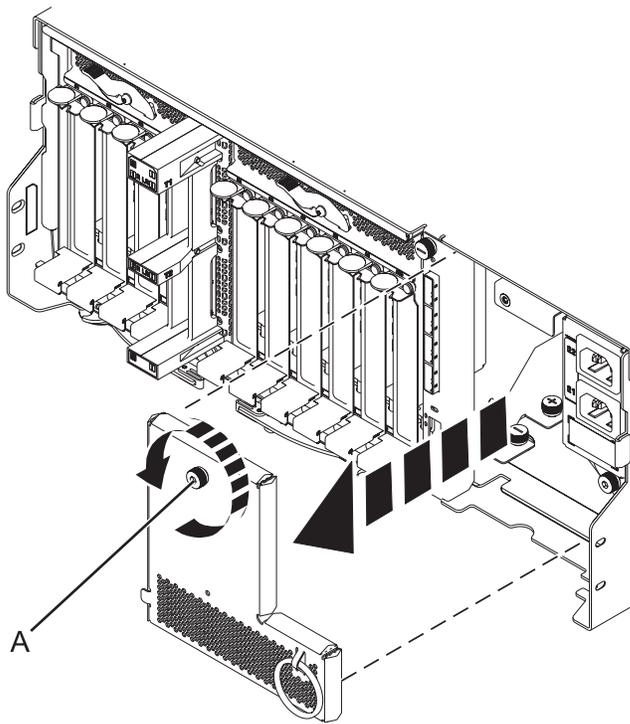

Figure 81. Removing the power cord plate
10. Remove the power cord plate by turning the thumbscrew (A) and pulling the plate away from the system, as shown in Figure 81.